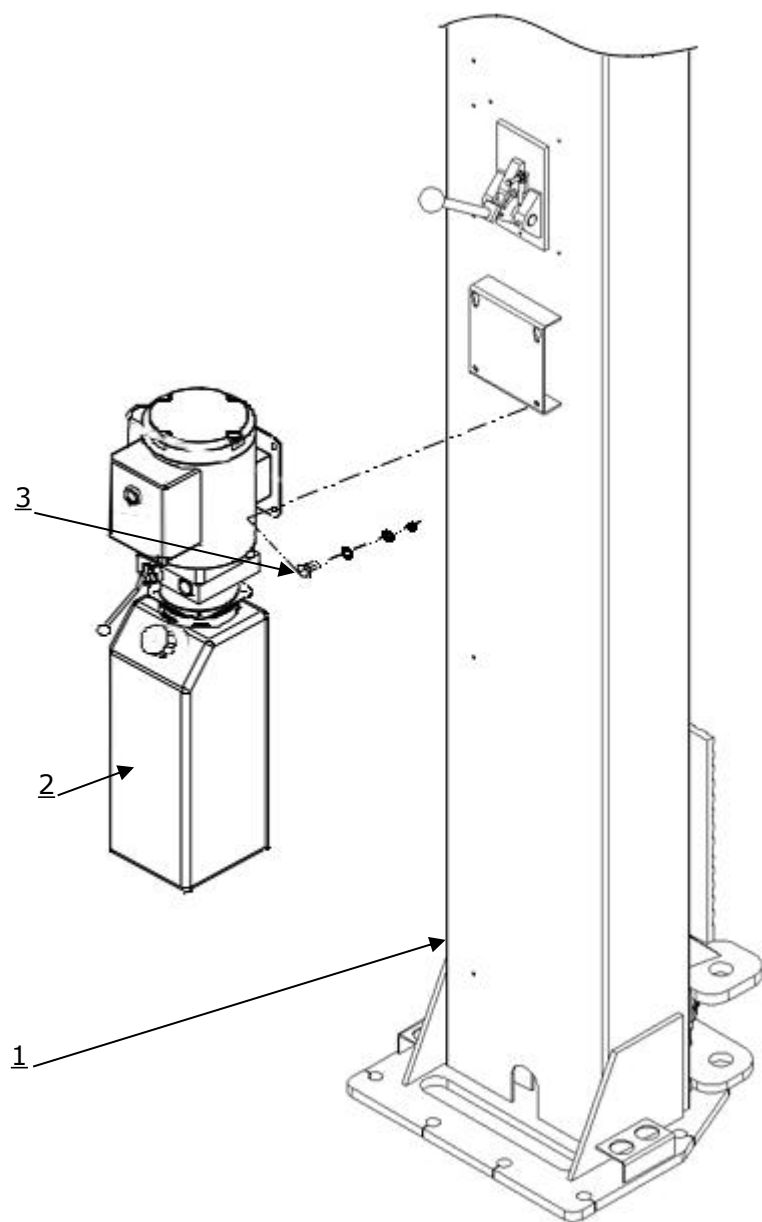

Fig. 32
L. Install power unit (See Fig. 32)